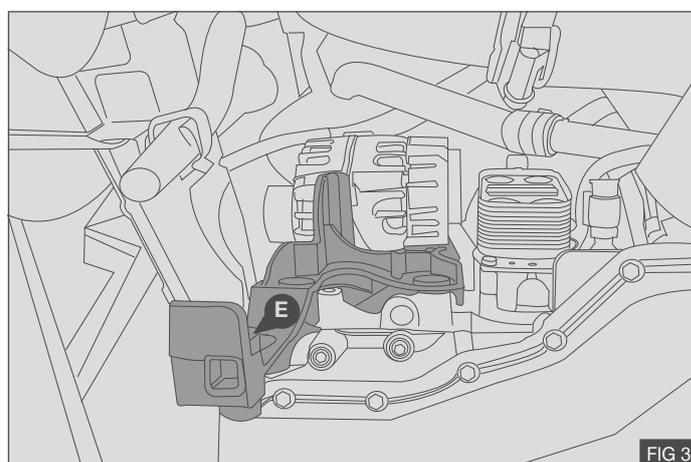

FIG 3
4. Remove and discard the original M8 bolt (E) from the original mounting bracket - Fig.3
1. Install the supplied compressor mount bracket (1) into the position previously taken by the original mounting bracket using the 2 bolts (5) M8 x 40 and 2 bolts (7) M8 x 50 - Fig.3
2. Torque bolts (5) & (7) to 25Nm / 18lb.ft. using a calibrated torque wrench.